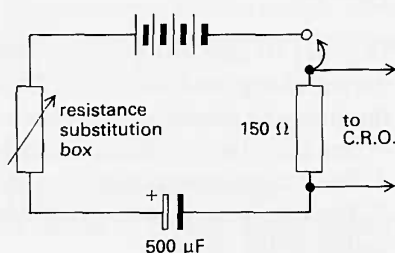

Figure B47
**B14g** Use a resistance substitution box to investigate the effect of adding extra resistance to the circuit (figure B47).